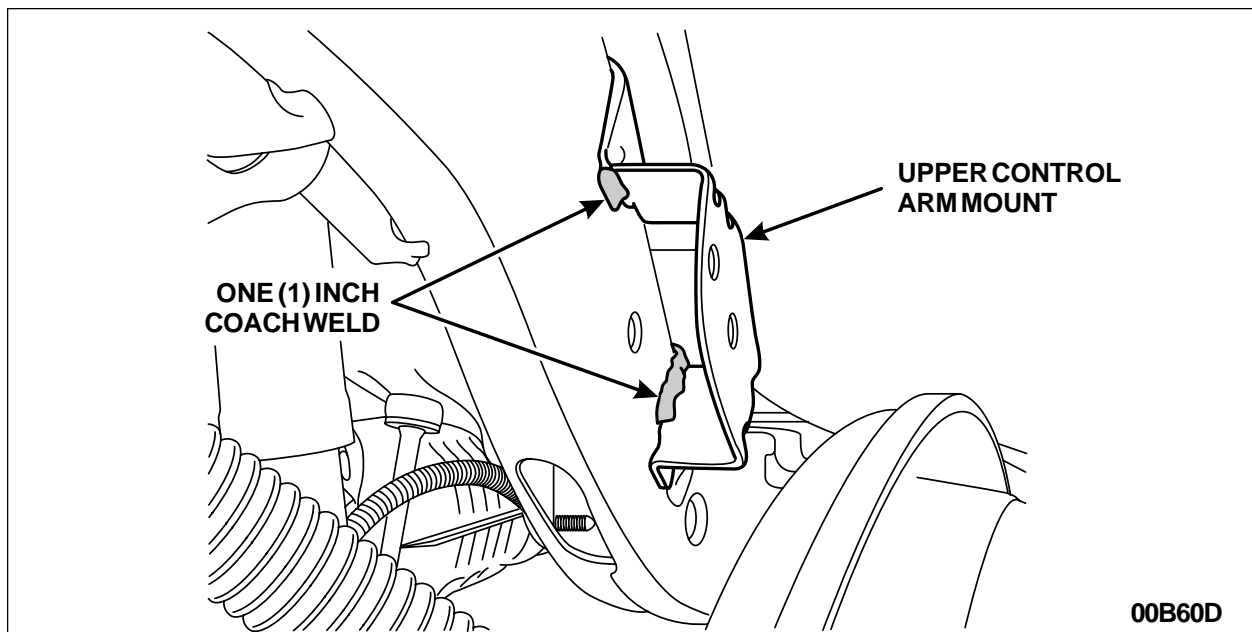

FIGURE 4
6. Remove the E-coat from the frame rail(s) and control arm mount(s) at the coach weld positions as indicated in the illustrations. See Figures 4 and 5.
7. Place one (1) inch coach welds onto the frame rail(s)/control arm mount(s) (starting at the edge of the mount) as indicated in the illustrations. See Figures 4 and 5.